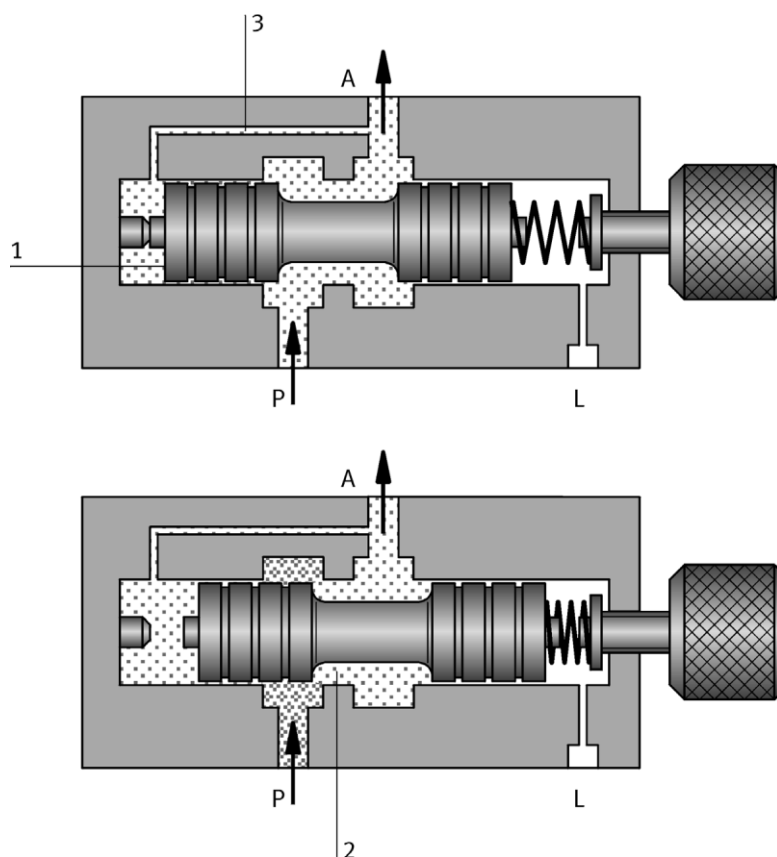

FIG 3.
The valve is opened in the normal position. The output pressure at (A) is transmitted to the piston surface via a control line. See Fig 3 on the next page. The resultant force is compared to the set spring force. If the force of the piston surface exceeds the set value, the valve starts to close as the valve slide moves against the spring until an equilibrium of forces exists. This causes the throttle gap to be reduced and there is a fall in pressure. If the pressure at output (A) increases once again, the piston closes completely.